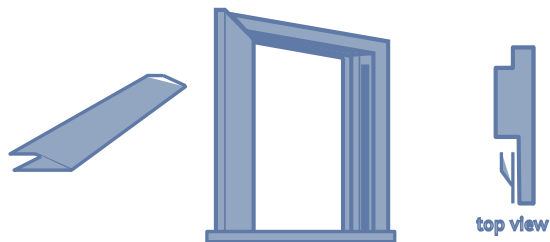

Figure 18: Thin spring metal.
- **Thin spring metal** should be tacked in place along the inside edge of the door jamb. Use a screwdriver to pry back the outer edge of the stripping so that it fits tightly against the door edge when it's closed, (Figure 18).